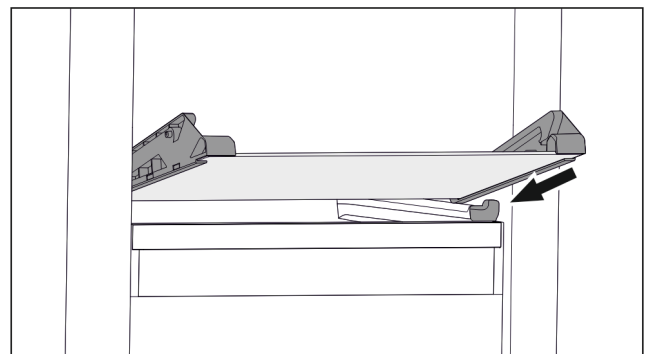

Fig. 98 Tilting drawer glass shelf
- Position glass shelf at an angle behind the stoppers. (see Fig. 98)